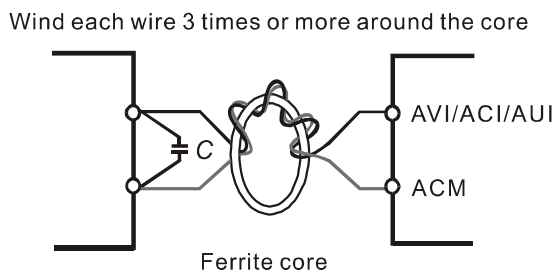

Figure 6-1
- ☑ If the analog input signals are affected by noise from the AC motor drive, connect a capacitor and a ferrite core as shown in Figure 6-1.